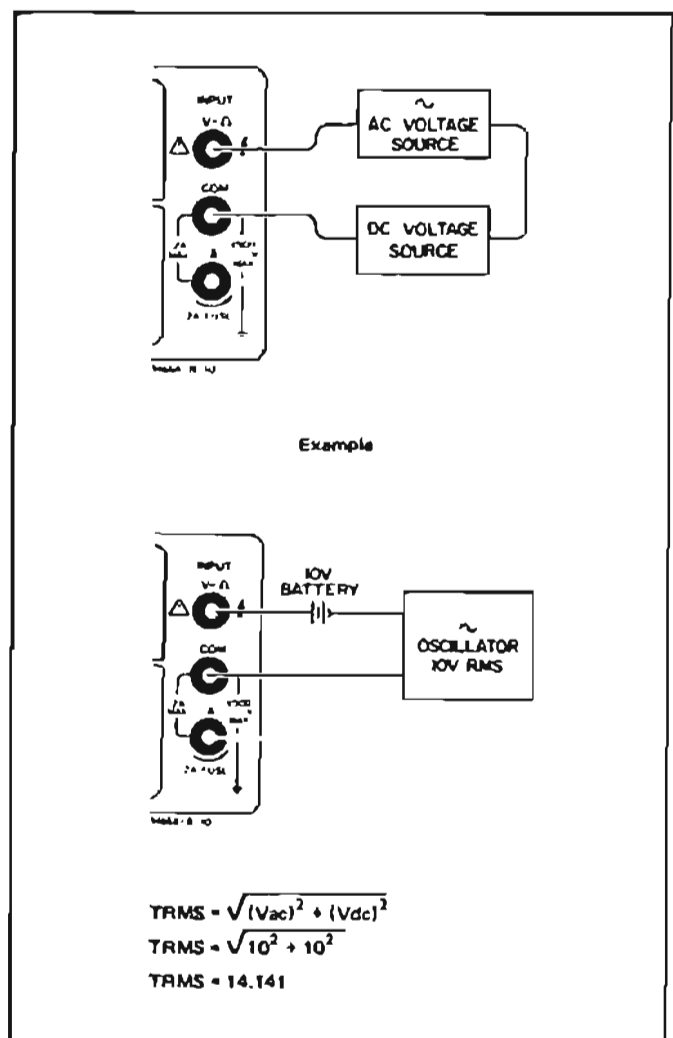

Figure 3-7. True RMS (dc + ac) Voltage Measurements
- Connect test leads from the multimeter VΩ (high) and COM (low) terminal to the Voltage under test as shown in Figure 3-7.